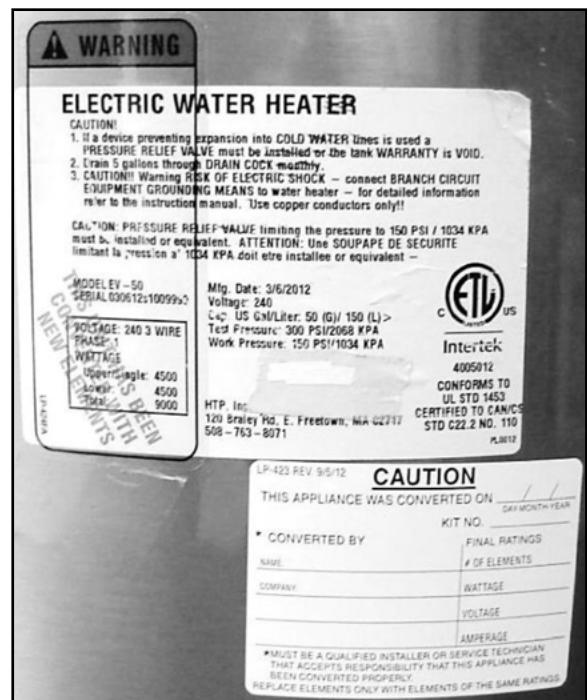

Figure 7 - Example of Conversion Label Replacement
- b. Place the clear warning label that states, **“THIS WATER HEATER HAS BEEN CONVERTED”** over the electric water heater rating label on the water heater. Ensure the original model and serial numbers remain exposed. See Figure 7.